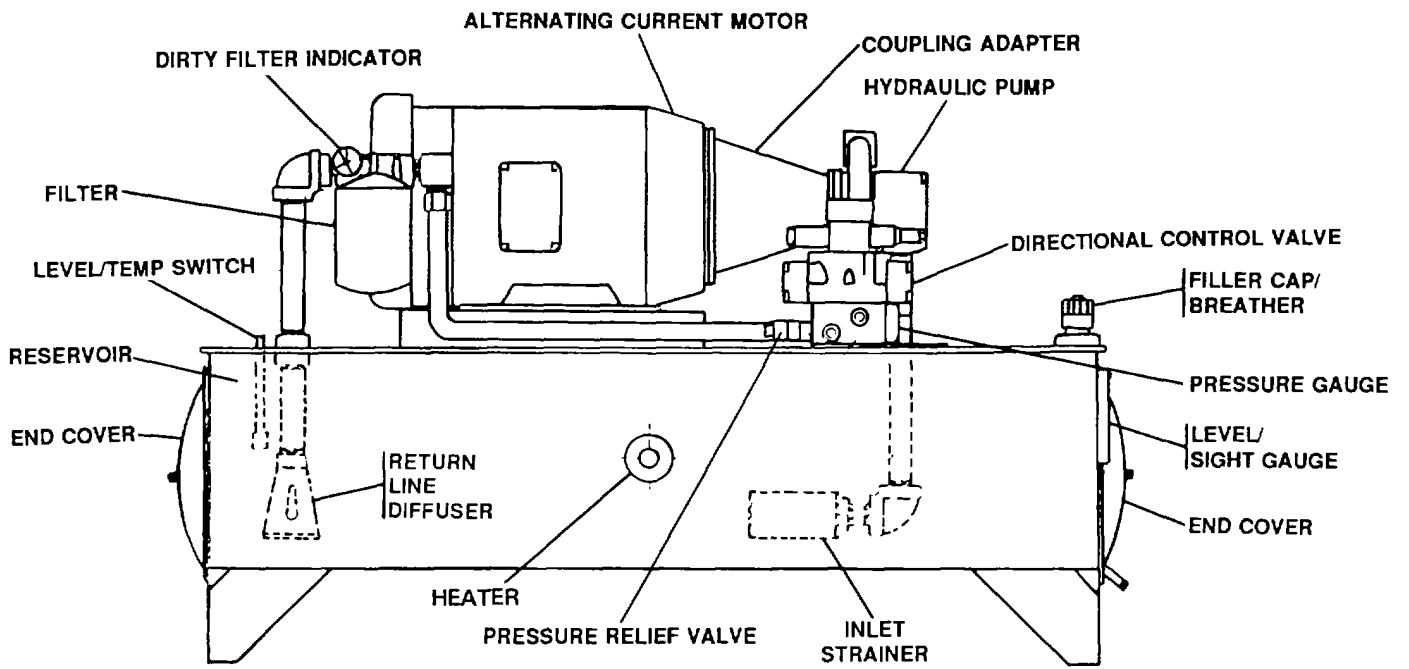
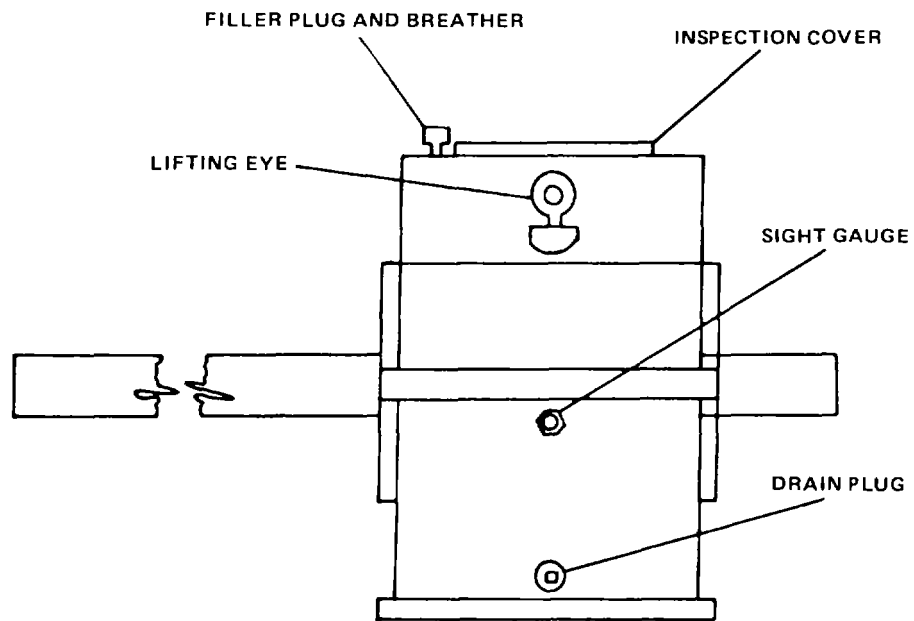

FIGURE 1-2. Hydraulic Power Pack Assembly Component Location.
FIGURE 2-2. Winch Assembly Gear Box.
- a. Add Hydraulic Fluid. Add hydraulic fluid to reservoir (FIGURE 1-2) in the hydraulic power pack assembly as follows:
- (1) Remove filler cap/air breather from top of reservoir.
- (2) Add no more than 75 gallons of hydraulic fluid.
- (3) Replace filler cap/air breather in top of reservoir; check level in sight glass.
- b. Add Oil. Add oil to gear box of winch assembly (FIGURE 2-2) as follows:
- (1) Remove oil filler plug from top of gear box cover.
- (2) Fill with oil to center of sight glass. (Refer to LO 55-1905-223-12.)
- (3) Replace oil filler plug in top of gear box cover.